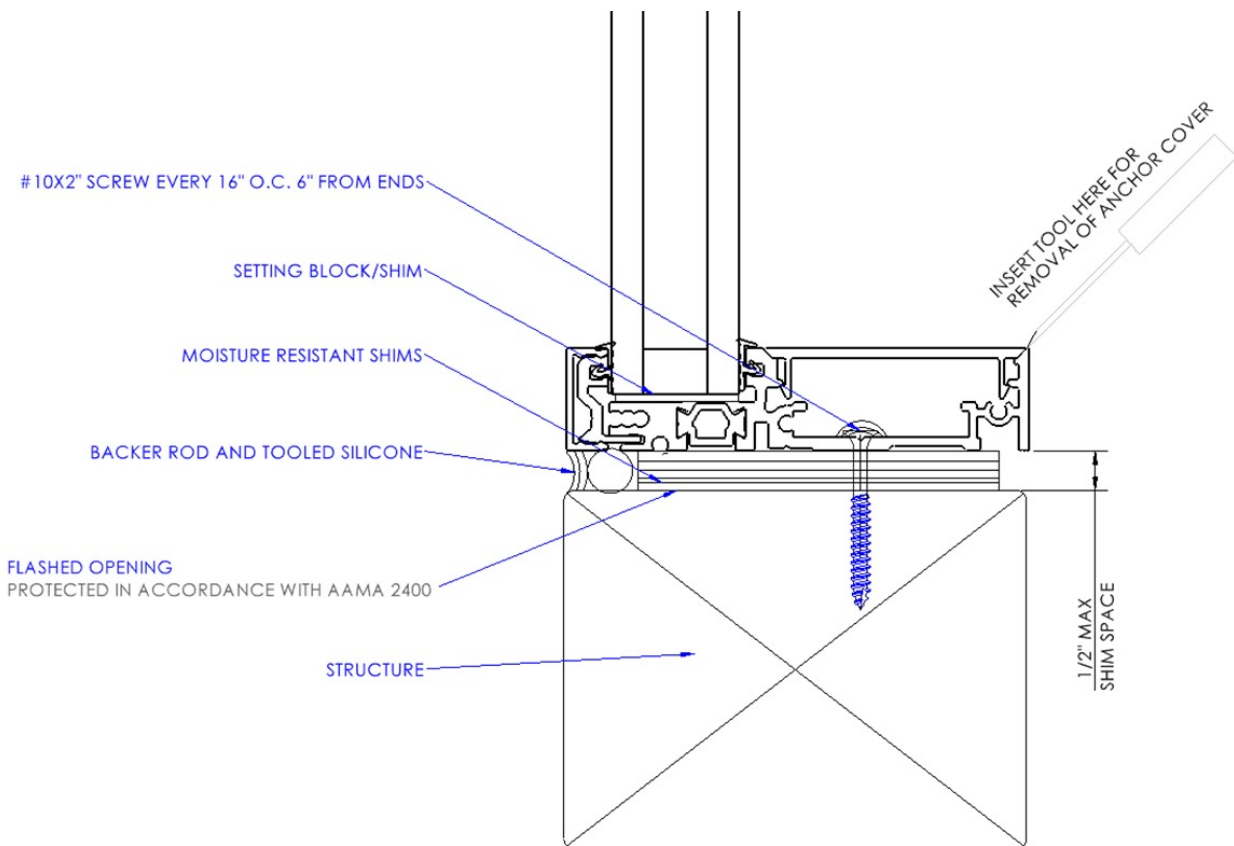

Figure 6
2. With a thin pry bar, locate the edge of the interior cover to the frame joint and pry the cover off the frame. (See Figure 6)